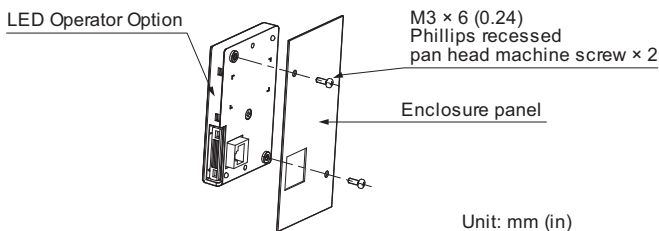

Figure 6 External/Face-mount Installation
1. Cut an opening in the enclosure panel for the LED Operator Option according to Figure 6.
2. Position the LED Operator Option so the LED display faces outwards, and mount it to the enclosure panel as shown in Figure 6.